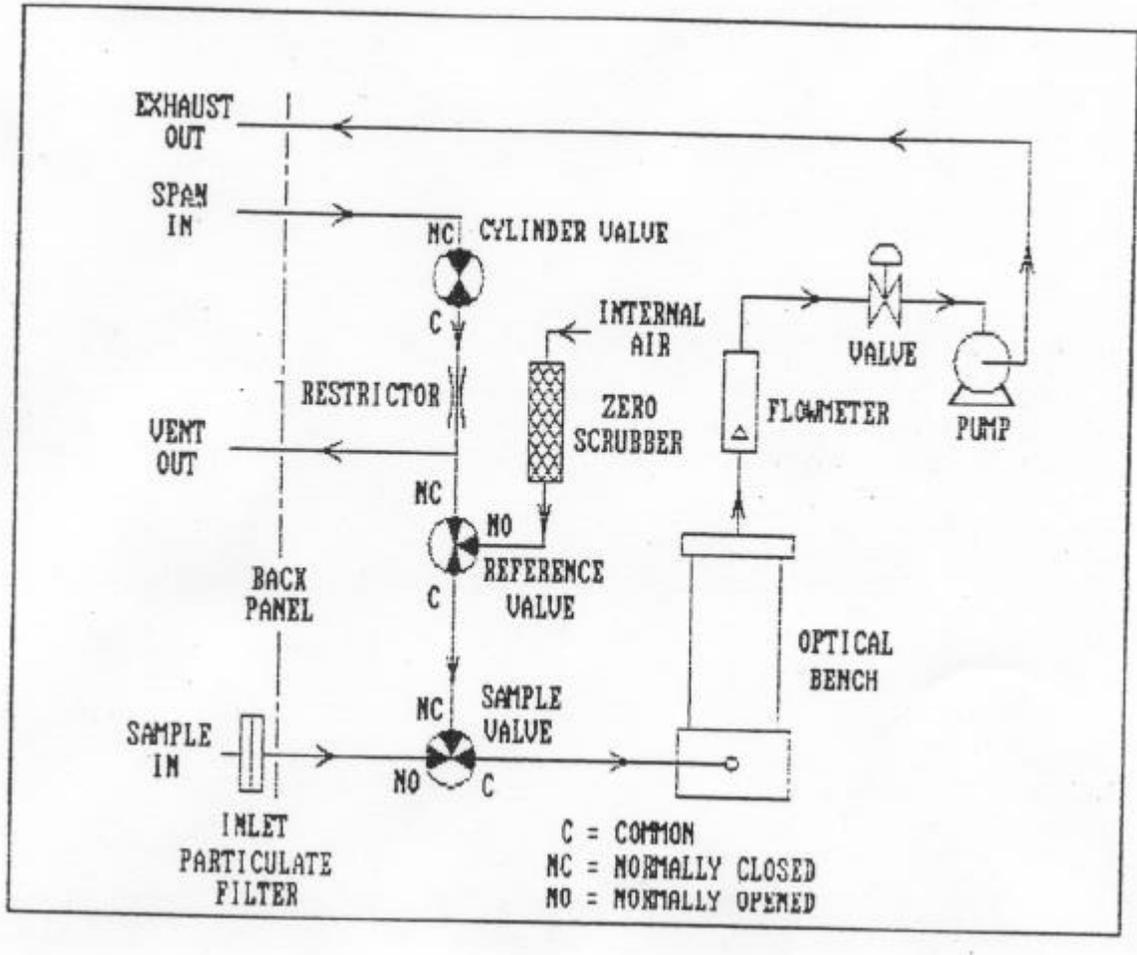

Figure S.1.0.1
The analyzer determines the concentrations of CO in ambient air by passing nondispersive single beam infrared (IR) radiation through a rotating gas filter wheel to the sample cell and then the detector. The wheel contains two different entrapped gases: CO and nitrogen. The CO side of the wheel acts to produce a reference beam which cannot be further affected by CO in the sample cell. The nitrogen side of the filter wheel is transparent to the IR radiation and therefore produces a measure beam which can be absorbed by CO in non-linear proportion to the CO concentration. The detector converts the light to electrical energy, and the signal processing electronic system manipulates the electrical information and displays the CO concentration. Figure S.1.0.1 illustrates the analyzer flow. For further details, refer to the Manufacturer's Instruction Manual.